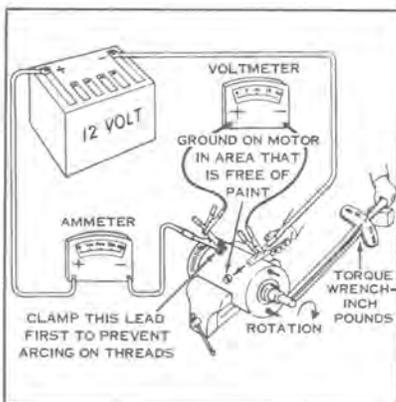

Figure 7-40
- Connect a voltmeter between the starter terminal (+) and motor frame (-). Using a torque wrench to stall motor armature (see Figure 7-40), connect starter motor through an ammeter to a 12-volt battery.